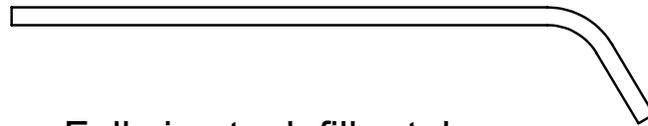

**Figure 12-7.**
- ❑ 15. Loosen the setscrews on the main gear shown in Fig. 12-7 so that it can slide up and down on the main shaft. Center the main gear vertically on the clutch bell pinion gear so that it does not hit the clutch bell or starter cone washer as it rotates. Note that the main gear may wobble slightly as it turns, so rotate it through a complete revolution to check vertical position. When correctly positioned, lock the main gear to the shaft using threadlock on the setscrews. **MAKE SURE THE MAIN GEAR SETSCREWS ARE VERY TIGHT.**